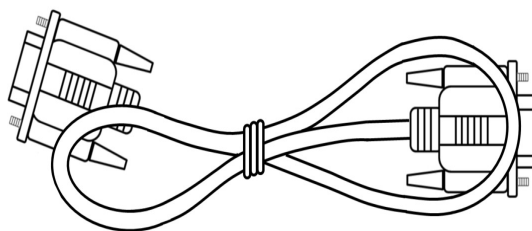

Figure 74
9) If the baud rate is set correctly, but you still cannot print, connect the printer you purchased to the machine using the printer cable in the packing box we provided, and then print again. As shown in Figure 74 below.